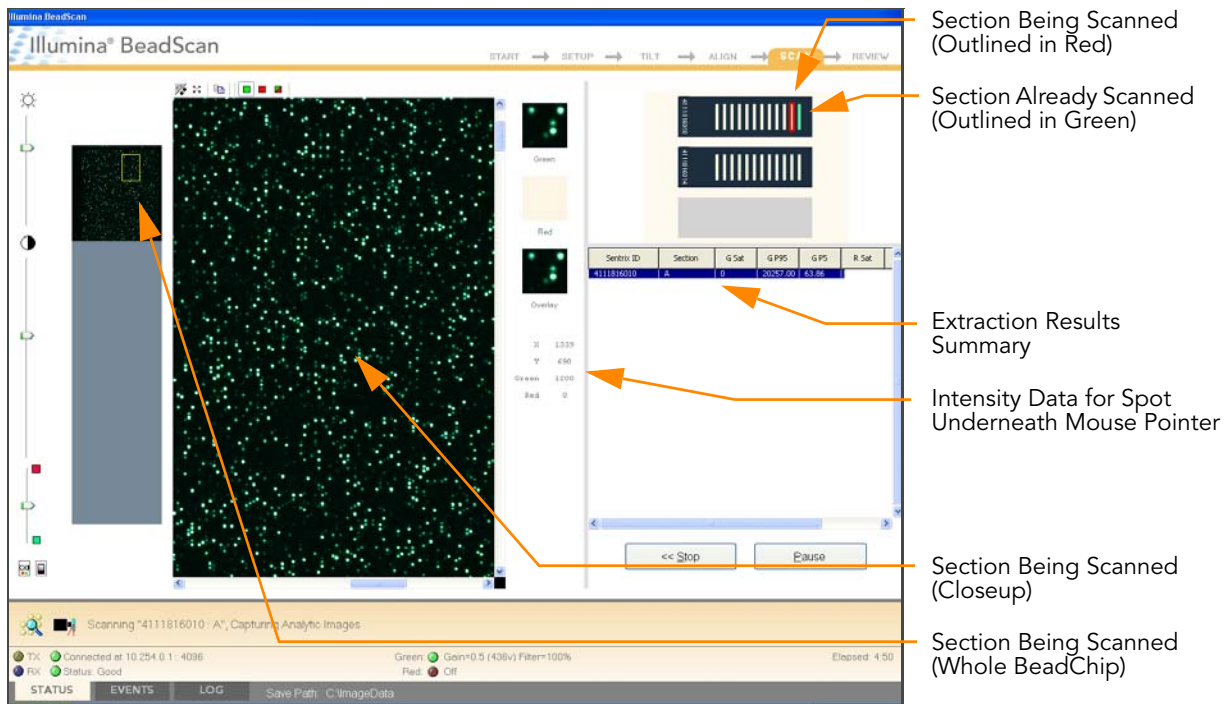

Figure 52 BeadArray Reader Scan Process
- Once the Tilt and Align processes are complete, the **Scan** process begins (Figure 52). Hover over any of the green dots in the closeup image to see the relative intensity and the XY position.¹ The red value should be at or close to zero, because this is a one-color assay.